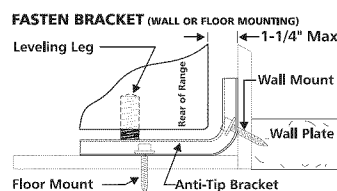

Fig. 5
**1b. Drill pilot holes & fasten bracket** - Drill a 1/8" pilot hole where screws are to be located. If bracket is to be mounted to the wall, drill pilot hole at an approximate 20° downward angle (See Fig. 5).